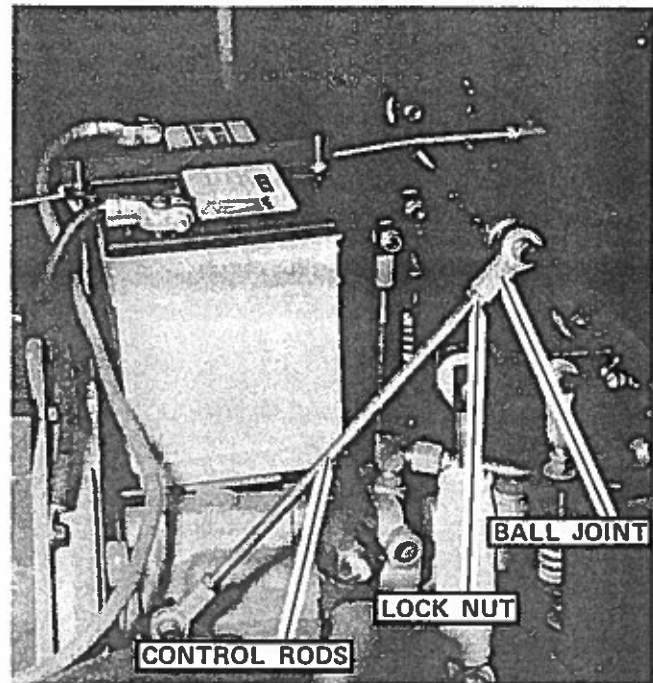

FIGURE 63
2. Loosen lock nut and detach ball joint, see FIGURE 63.